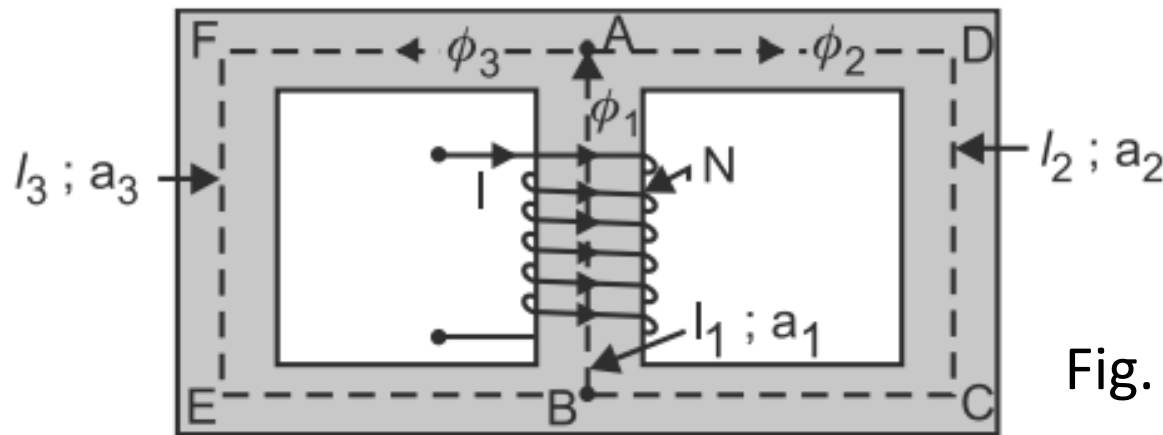

Fig. 3.4
- Figure 3.4 shows a parallel magnetic circuit. A current carrying coil is wound on the central limb AB. This coil sets-up a magnetic flux Φ_1 in the central limb which is further divided into two paths i.e., (i) path ADCB which carries flux Φ_2 and (ii) path AFEB which carries flux Φ_3 .
- The two magnetic paths ADCB and AFEB are in parallel as shown in figure 3.4